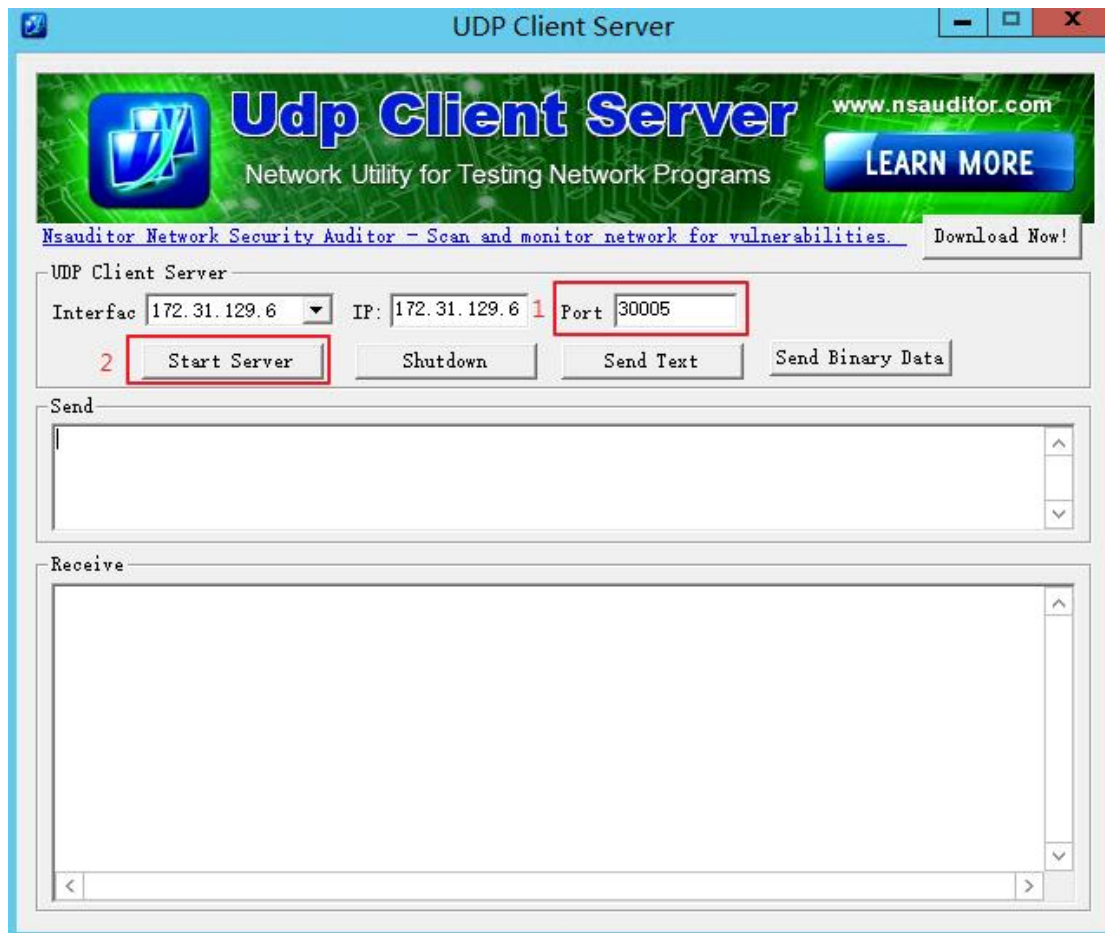

Figure 5-11 UDP Example 3
Step 5: Launch **UDP Client Server** to create a server. Use the PC as the center. Enter the UDP port number of the PC in **Port** and click **Start Server**, as shown in Fig 5-11.